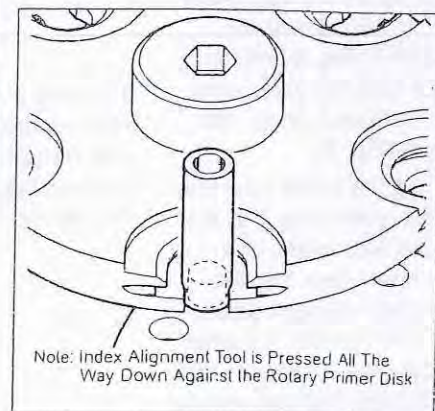

**Fig. 5**
2. Fig. 5. Push the handle against the full aft stop. (NOTE: while performing these next steps, it's easier if you have someone hold the handle against its full aft stop for you.)